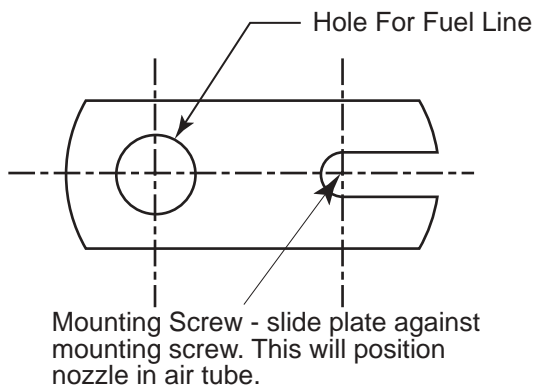

Figure 19. Electrode Assembly Installation
2. Install electrode assembly into air tube unit. Use escutcheon plate for mounting (see Figure 19).